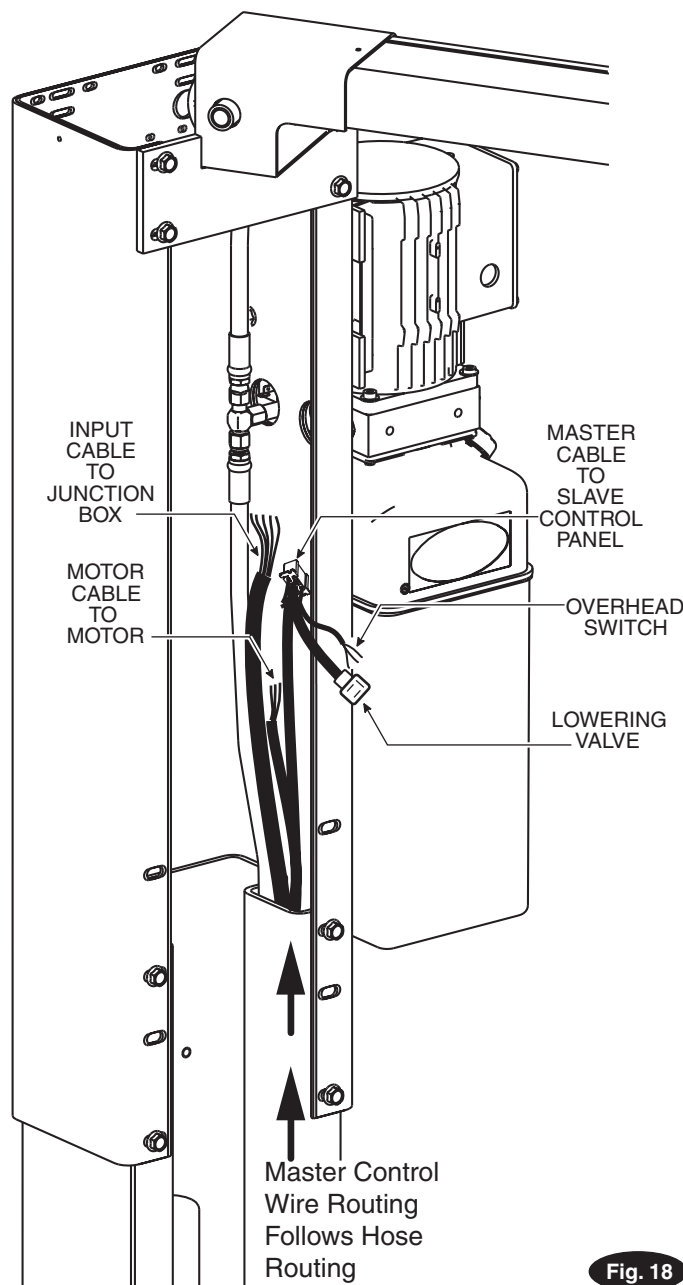

Fig. 18
- E) Return to Master control panel and route all cords up through column along hose routing, Fig. 18.